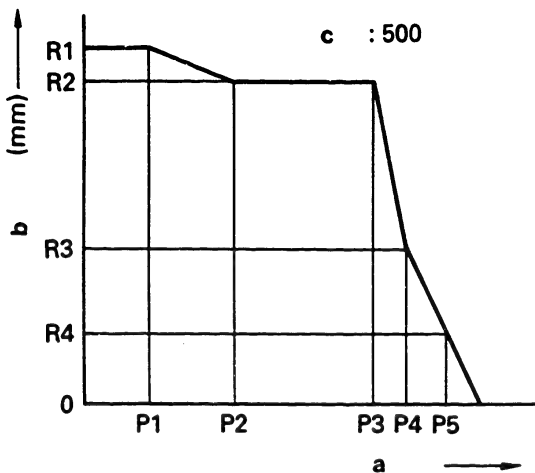

Fig. 78 Pneumatic governor performance
6. Ensure that the control rack positions R1 and R2 are secured by decreasing pressure of the pneumatic governor gradually from 0. (Fig. 78)